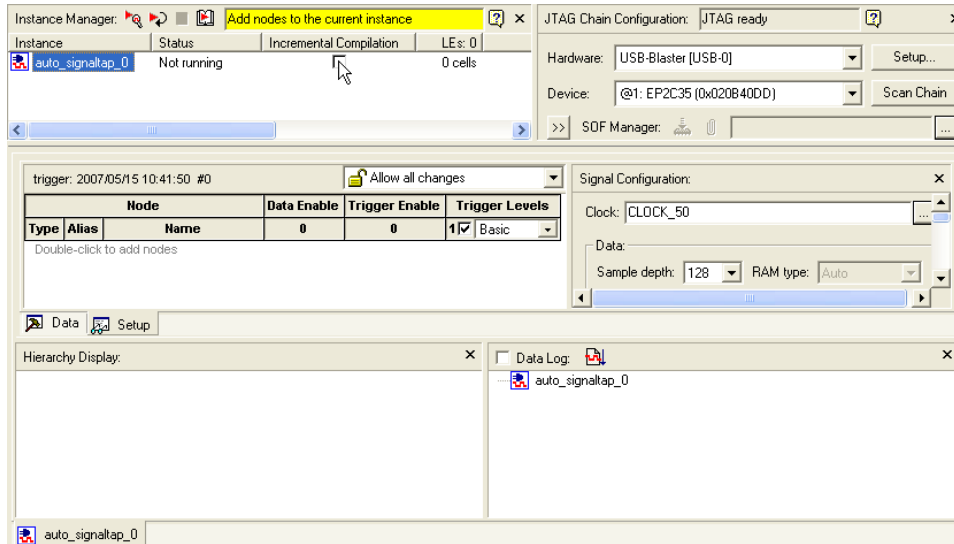

Figure 9. The Setup tab of the SignalTap II window with Incremental Compilation turned off.
3. For this project, we wish to turn off the incremental compilation feature of the Quartus II software. To do this, in the SignalTap II window uncheck the Incremental Compilation box. Then, select the Setup tab to reach the window shown in Figure 9.